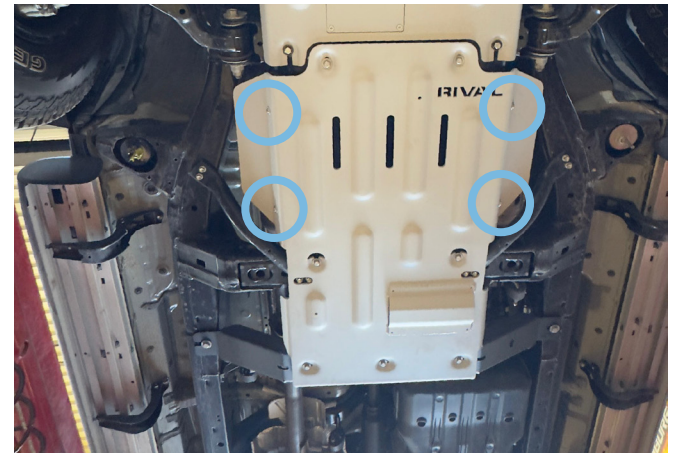

Fig.12
12. Install the left and right flaps (item 4,5) to the skid plate using M6x25 bolts (item A) with M6 flat washers (item E) as shown in Fig.12.